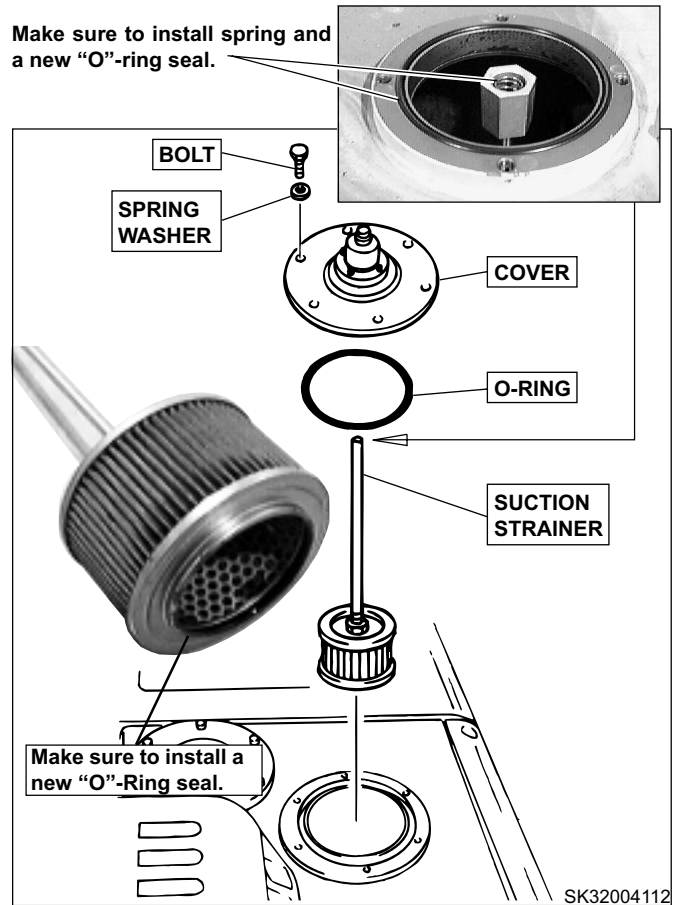

**FIGURE 4.49C**
13. Place a 156 liter (41 Gal) capacity container under drain plug. Remove plug and allow all oil from hydraulic tank to drain into container. See Figure 4.49C.